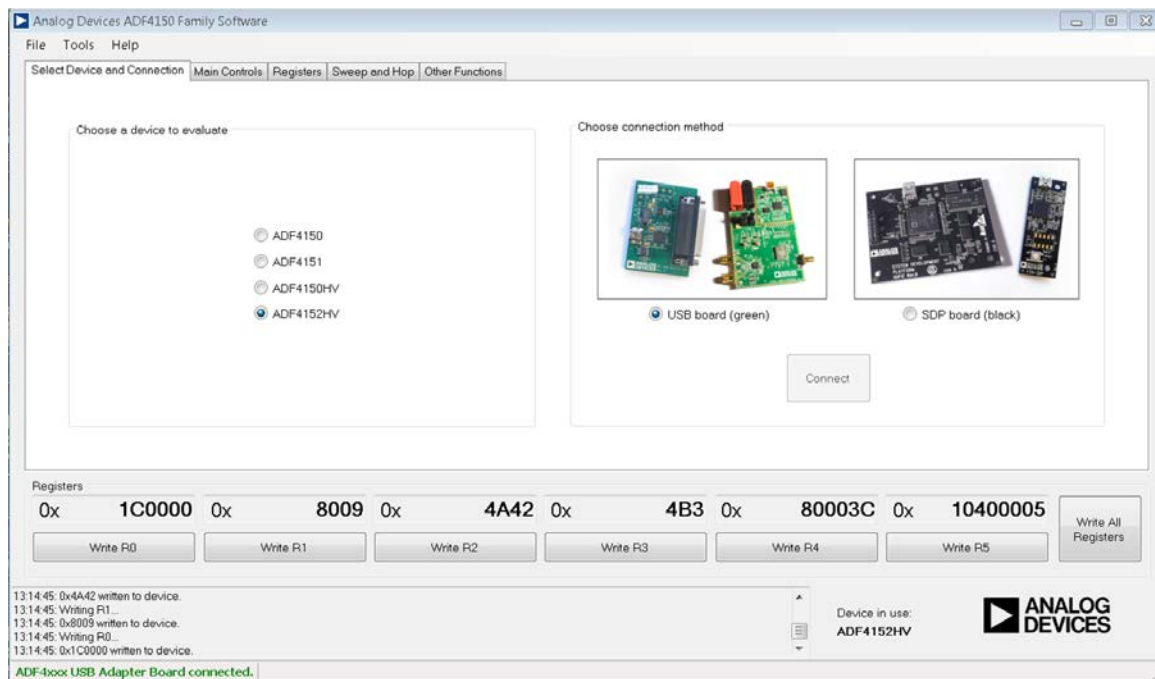

Figure 4. Software Front Panel Display—Select Device and Connection
6. Select **USB board (green)** and **ADF4152HV** in the **Select Device and Connection** tab of the software front panel display window (see Figure 4).
2. On the **Select Device and Connection** tab, choose **ADF4152HV** and **USB board (green)**, and then click **Connect** (see Figure 4).
3. Confirm that **ADF4xxx USB Adapter Board connected** is displayed at the bottom left of the window (see Figure 4). Otherwise, the software has no connection to the evaluation board. Note that when connecting the board, it takes about 5 sec to 10 sec for the status label to change.